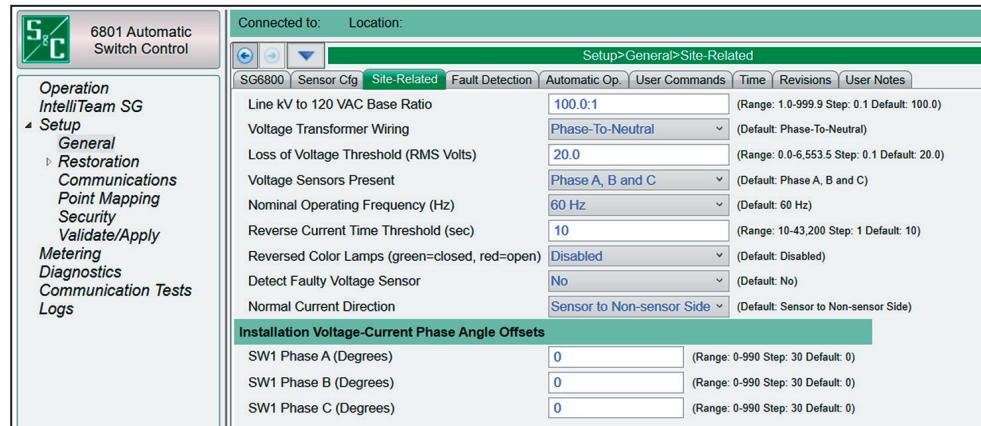

Figure 1. The 6801 control *Setup>General>Site-Related* screen.
STEP 1. Open the IntelliLink Setup Software and go to the *Setup>General>Site Related* screen shown in Figure 1.